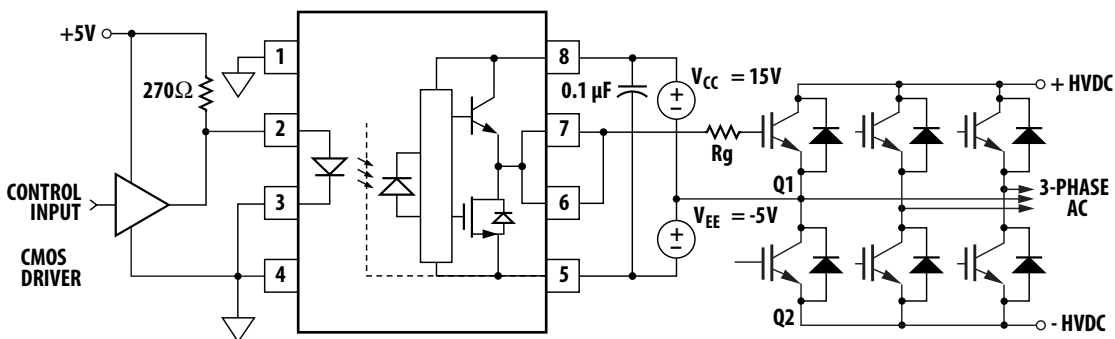

Figure 26. ACPL-312T typical application circuit with negative IGBT gate drive.
**Step 1:** Calculate  $R_g$  Minimum from the  $I_{OL}$  Peak Specification. The IGBT and  $R_g$  in Figure 26 can be analyzed as a simple RC circuit with a voltage supplied by the HCPL-3120.
For the circuit in Figure 26 with  $I_F$  (worst case) = 16 mA,  $R_G$  = 8  $\Omega$ , Max Duty Cycle = 80%,  $Q_G$  = 500 nC,  $f$  = 20 kHz and  $T_A \text{ max} = 85^\circ\text{C}$ :